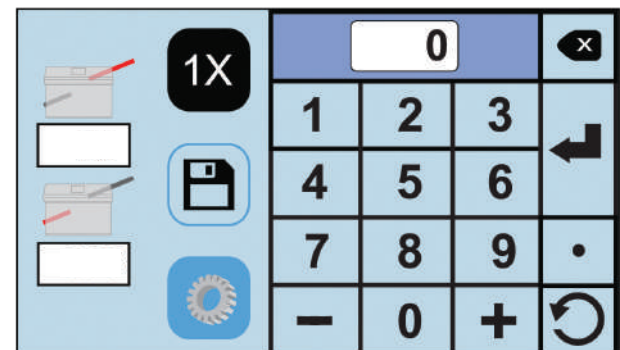

Fig. 41
2. Select the upper fold table icon  to adjust the fold stop position for the first fold (the icon will turn a dark gray when selected). Using the touch pad, key in the number or use the "+" and "-" keys to make the adjustment for the first fold stop position (Fig. 41). Press the enter key  to enter the measurement. The white box under the icon will show the measurement entered. Select the bottom fold plate icon  to adjust the second fold and repeat the same steps to adjust.
4. To exit, press the Service Mode Home Icon  at any time (Fig. 41)